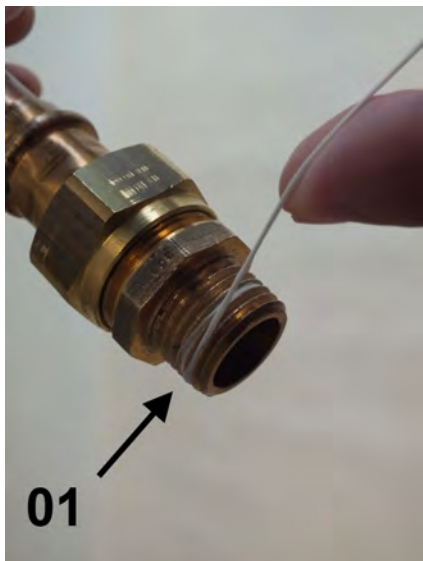

Fig. 9: Apply sealing thread
- #### 2. ▸ Apply sealing thread (Fig. 9/01) to the napped area in the threaded direction. Observe the quantity recommended by the sealant manufacturer.